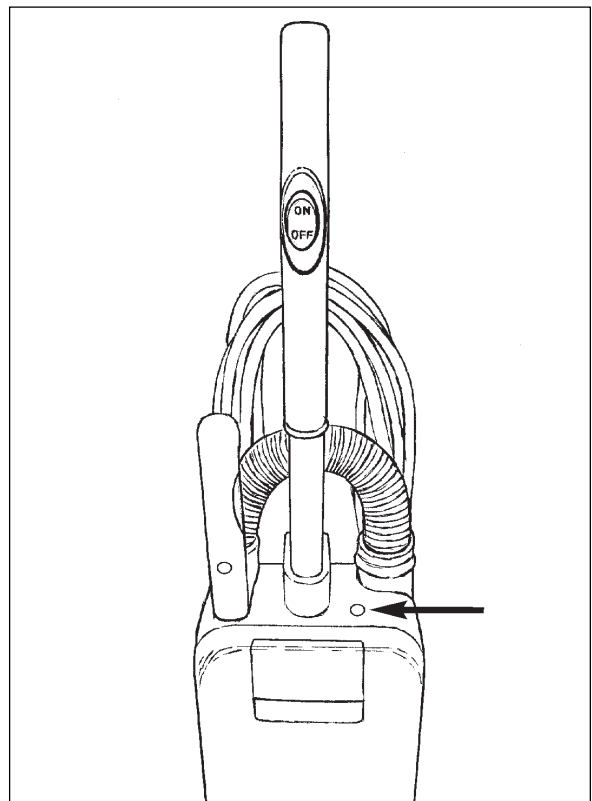

Figure 24
If the vacuum indicator light (1) comes on, (see figure 24) or the motor stops, do the following:
1. Put the ON/OFF switch in the "O" position (2).